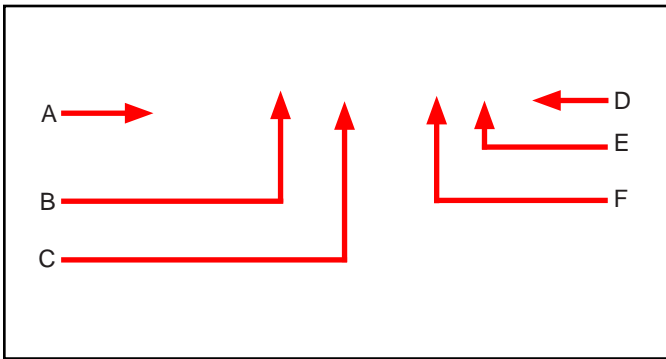

Figure 3. Bench Top Zero Volt Ionizers features and components
1. Set the fan speed switch on the rear of the unit to the LOW, MED, or HI position (see Figure 3). Higher airflow will result in faster neutralization rates.